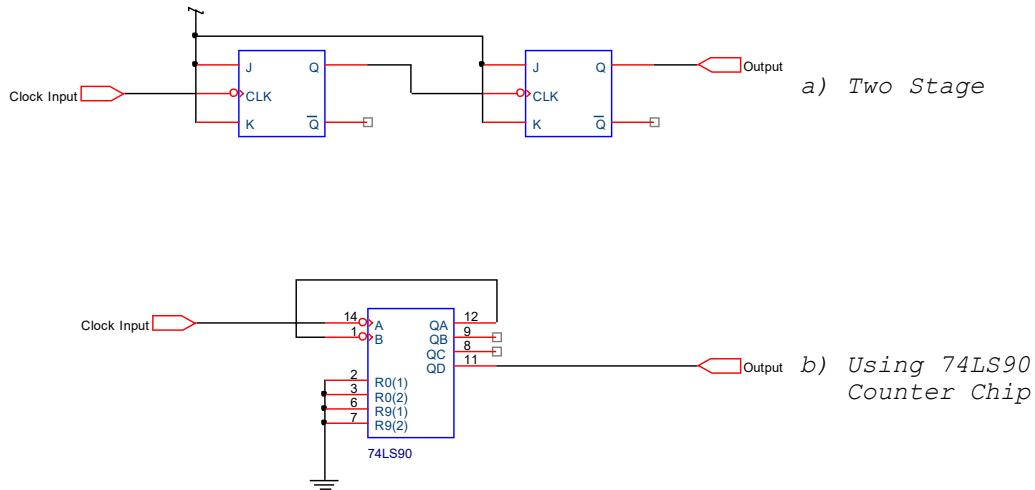

Figure 7-10: Two More Divider Circuits
By cascading counters, we can get larger divisors. Can you determine the divisor ratio for each of the circuits of Figure 7-10?
In Figure 7-10(a) we have cascaded two JK flip-flops to form a *ripple* counter. From digital fundamentals, you'll recall that the modulus of a binary ripple counter is equal to:
Where N is the number of flip-flops in the circuit and MOD is the modulus, or number of unique counting states. Since $N = 2$, the circuit of Figure 7-10(a) divides by 2^2 , or $\underline{4}$. The top circuit therefore divides the incoming frequency by four.
The bottom circuit cannot be analyzed without studying the data sheet for the 74LS90. The 74LS90 is wired as a BCD (modulo 10) counter in Figure 7-10(b). This means that there are ten unique counting states, and since the Q_D output is being used as the output, there will be one pulse on Q_D for every ten input pulses on the clock input (A). The circuit divides the input frequency by 10.